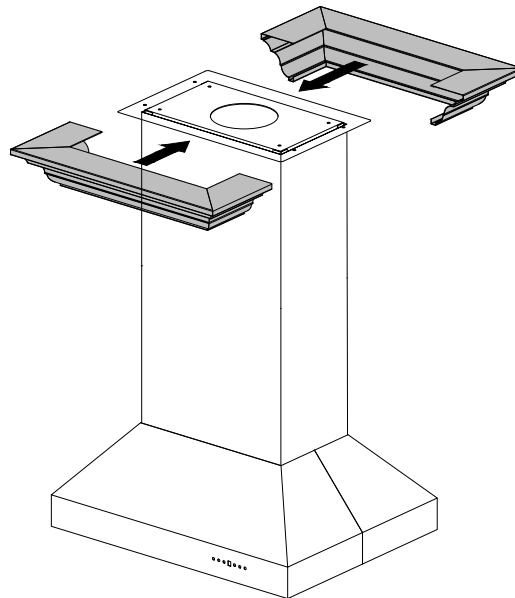

Figure 3
3. Extend the chimney up to the transformer. Slide the two-piece crown molding onto the crown bracket and secure into place. The crown should cover the gap. Ensure that it installs properly and is level. *Figure 3*